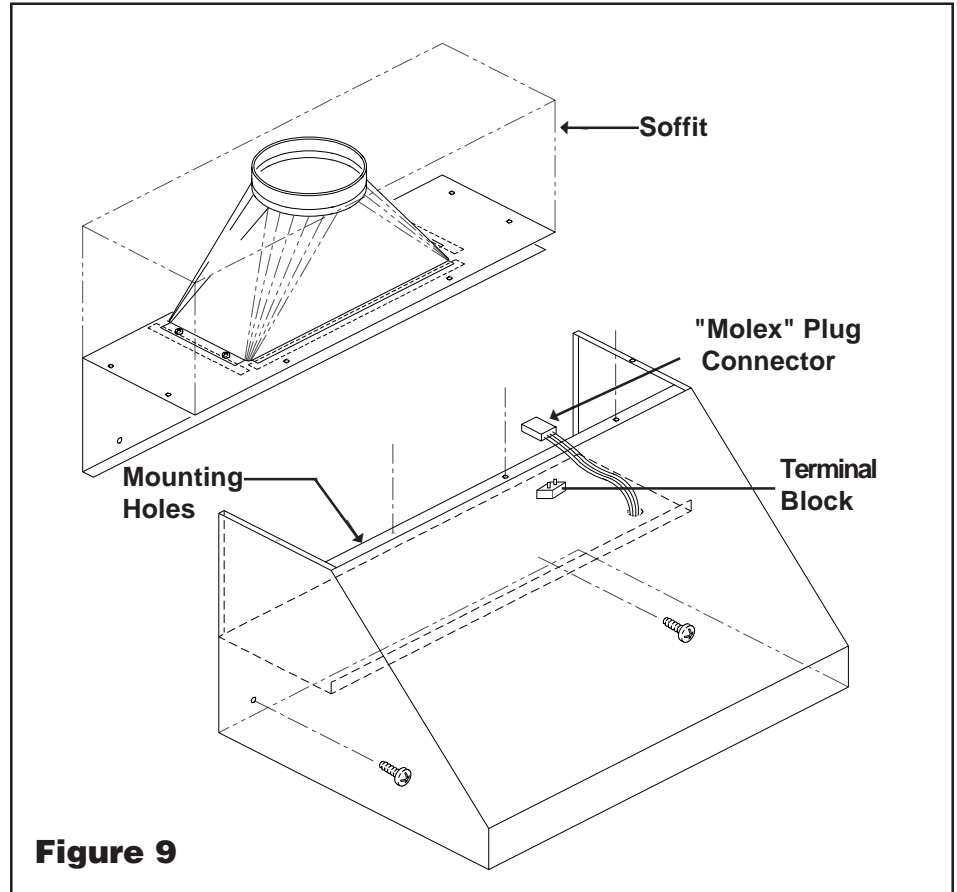

Figure 9
1. Run five wires 14 AWG (black, white, blue, red and green) in 1/2" conduit from the remote ventilator to the hood junction box, see Fig.9.
5. Secure the hood rear plate to the drywall through the heat-lamp opening with two (2) screws provided. (Wall anchors are required if the screws will not hit the wall stud.) See Figure 9.